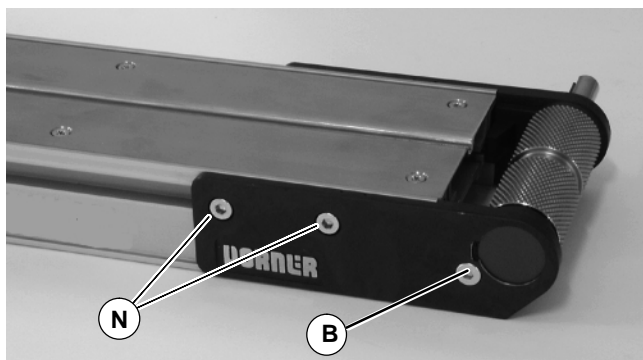

Figure 13
14. Insert screws (B of Figure 13) into both head plates. Tighten to 60 in-lbs (7 Nm)